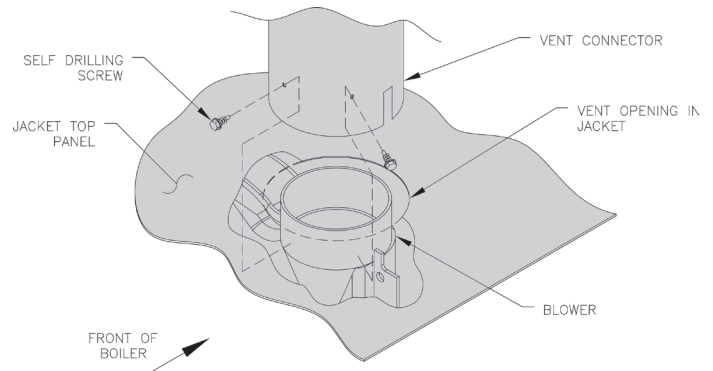

Figure 43: Blower Vent Connector Assembly
14. Connect Vent System. See Figure 43.